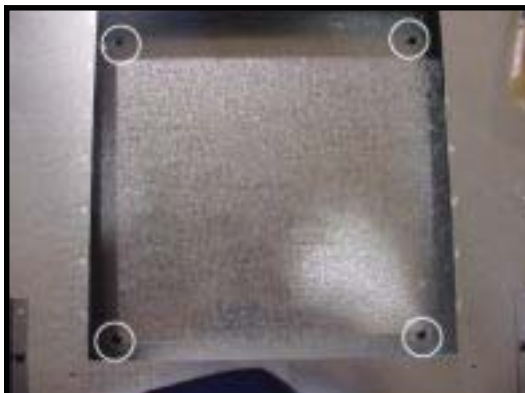

Figure 18 - Cover Plate
14. Locate the cover plate removed in Step 1 and place on top of the top pan heat shield. Replace the four screws to hold this plate in place. See Figure 18.